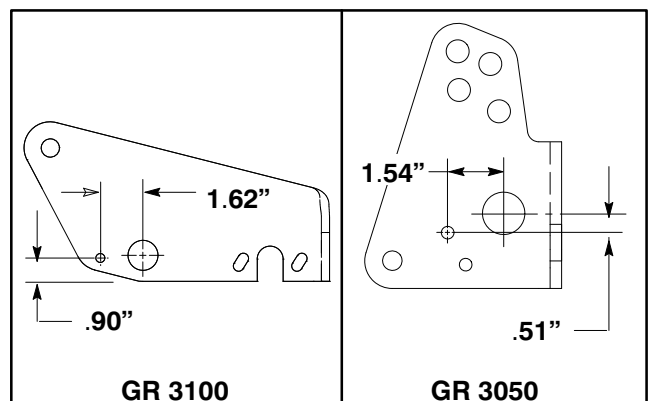

Figure 8
A. Using dimensions shown in figure 8, locate and scribe a line on appropriate frame member.